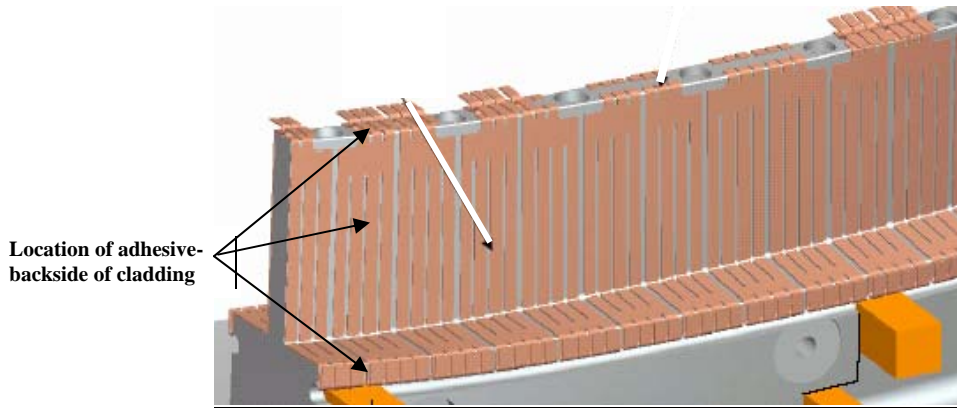

Figure 24- Installation of Cladding
6.20.2.1 Fitup each section of copper cladding to the inner wall using the cladding mapping drawings. Customizing of each section of copper cladding will be required. Some pre-forming can be performed, but final fitup will be performed with cladding piece in position. Install cladding on both sides “A” and “B”. **(Figure 24- Installation of Cladding)**
- 6.20.2.3 Secure the insulated cladding to the winding form winding surfaces using 3M adhesive cement #CA40H. Apply a minimal quantity [drop] to the back of the cladding per **Figure 24- Installation of Cladding**. A small quantity may also be applied to the backside of the vertical cladding if required to hold pieces in place. **Care should be taken to avoid any buildup of cement under cladding.**